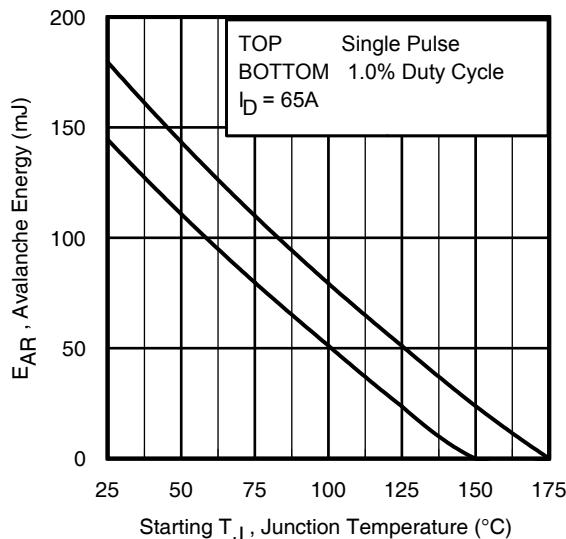

**Fig 14.** Maximum Effective Transient Thermal Impedance, Junction-to-Case
7.  $\Delta T$  = Allowable rise in junction temperature, not to exceed  $T_{jmax}$  (assumed as  $25^\circ\text{C}$  in Figure 14, 15).
$Z_{thJC}(D, t_{av})$  = Transient thermal resistance, see Figures 14)